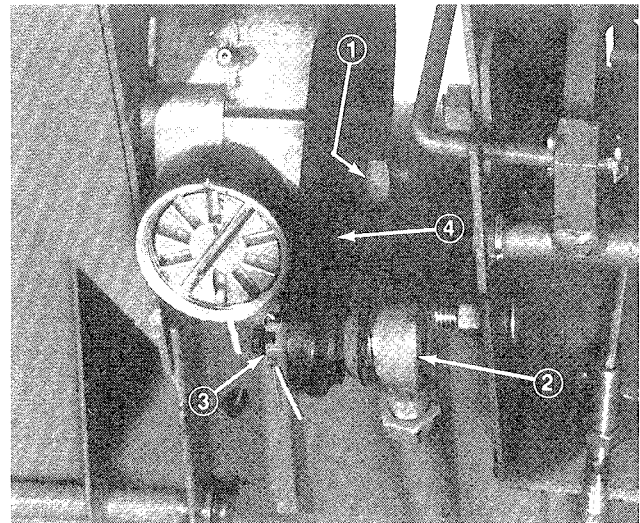

Figure 52
4. Locate jam nut and lever stud at left side of steering gear (Fig. 52). Insert screwdriver into stud slot and loosen jam nut and stud.
1. Remove cotter pin and slotted nut from tapered socket that connects steering rod and steering arm. Separate tapered socket from steering arm (Fig. 52).